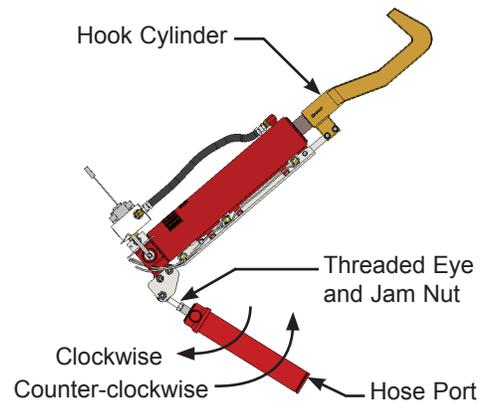

Figure 38
3. Disconnect the hydraulic hose from the hose fitting on the positioning cylinder; see Figure 38. Cap off the open fittings to prevent fluid loss and to prevent contamination from entering the system.
6. Loosen the jam nut that is on the threaded rod eye of the positioning cylinder. See Figure 38.
7. Rotate the positioning cylinder clockwise to raise the PowerHook cylinder height, or counter-clockwise to lower as shown in Figure 38